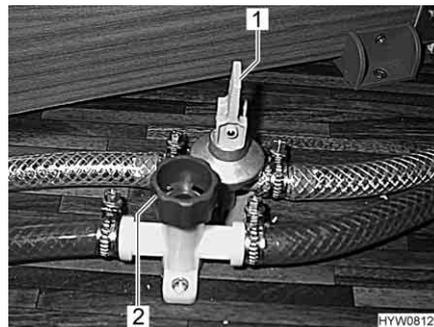

Fig. 142 Drain cocks
- Close all boiler drain cocks. To do this, position the rocking lever (Fig. 142,1) horizontally or turn the cap (Fig. 142,2) in a clockwise direction.
- Open all boiler drain cocks. To do this, position the rocking lever (Fig. 142,1) vertically or turn the cap (Fig. 142,2) in an anticlockwise direction.